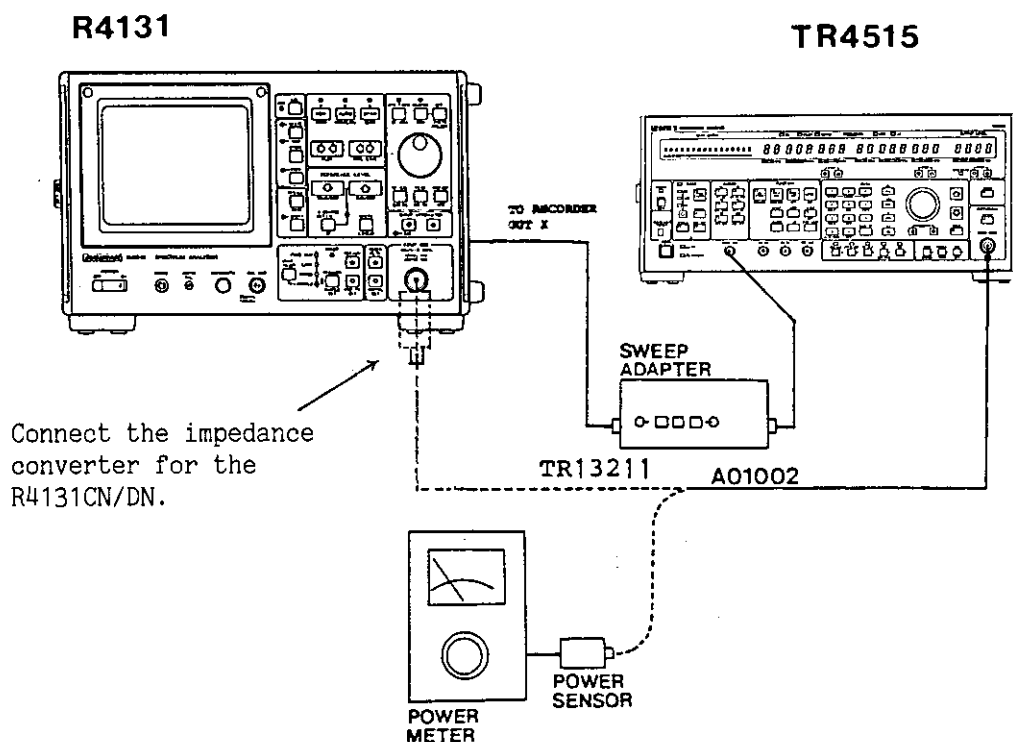

Figure 11-19 Frequency Response Test Setup
② Set the sweep oscillator output to 200 MHz (CW), -10 dBm and connect it to the power meter using the A01002 cable. Adjust the output level of the sweep oscillator to -10 dBm. (See Figure 11-19.)
- ③ Connect the sweep OSC output to the spectrum analyzer INPUT connector. Connect the impedance converter for the R4131CN/DN. (See Figure 11-19) With its amplitude set to 2 dB/division, set the reference level to display a 200 MHz signal on the center axis of the display screen.
- ④ Set the sweep oscillator to the external sweep mode, and set the start and stop frequencies to 10 MHz and 4 GHz, respectively.
- ⑤ Press the sweep adapter START switch, and adjust the START dial to display the signal at the leftmost position on the display screen. Next, press the STOP switch and adjust the STOP dial to display the signal at the rightmost position on the display screen.